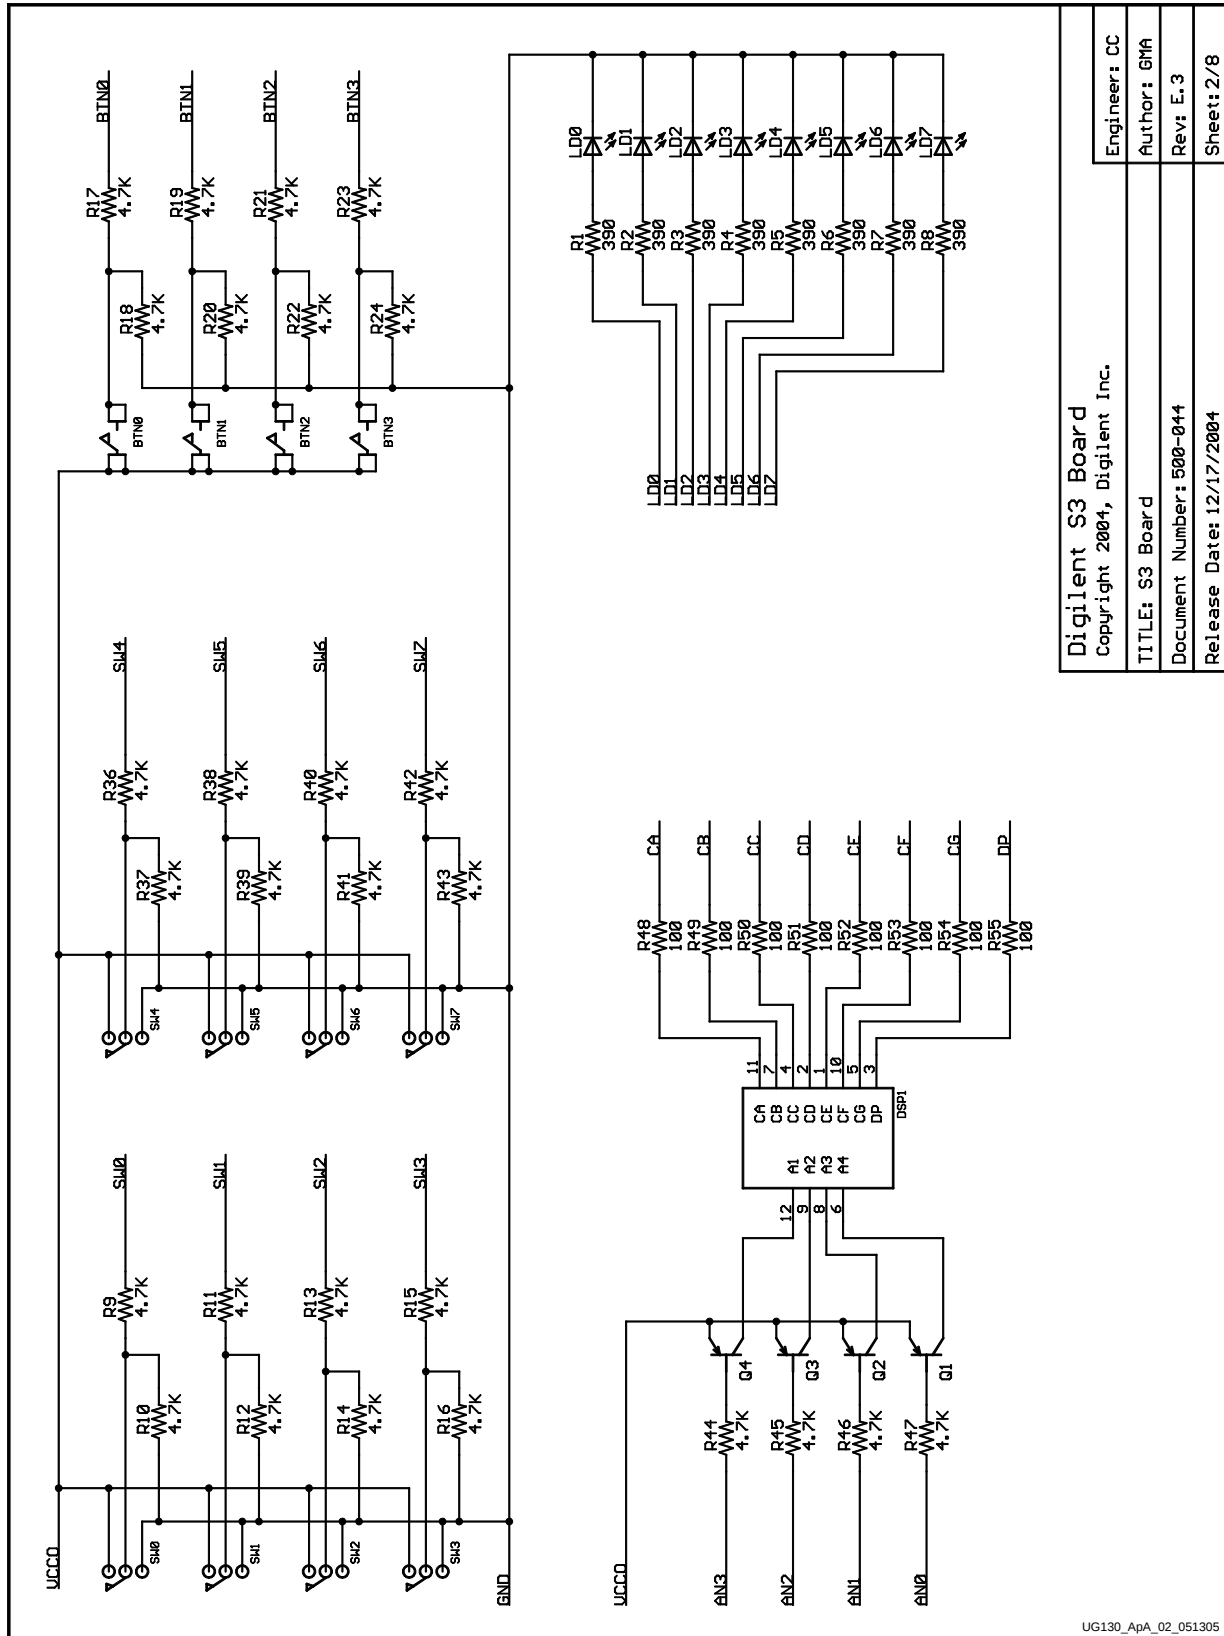

Figure A-2: Slide Switches, Push Buttons, LEDs, and Four-Character 7-Segment Display
- Figure A-2, “Slide Switches, Push Buttons, LEDs, and Four-Character 7-Segment Display”